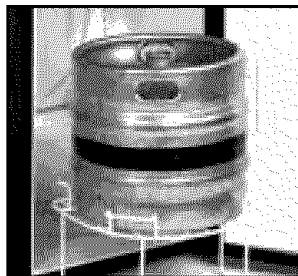

Fig. 7
- 15. Installation of the Beer Keg:** Position the keg stand directly in front of the open refrigerator cabinet. Using proper lifting technique, (using keg handles only) carefully lift the beer keg onto the keg stand. **See Fig. 7**